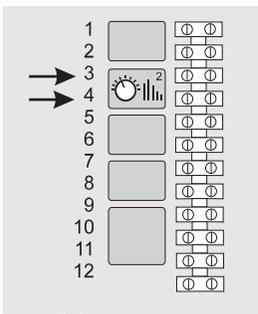

figure 5-6
4. Connect the wires to the boiler. Connect the wires to connection point 3 and 4 of the connector (refer to figure 5-6). **It is not important which wire is connected to point 3 or 4.**